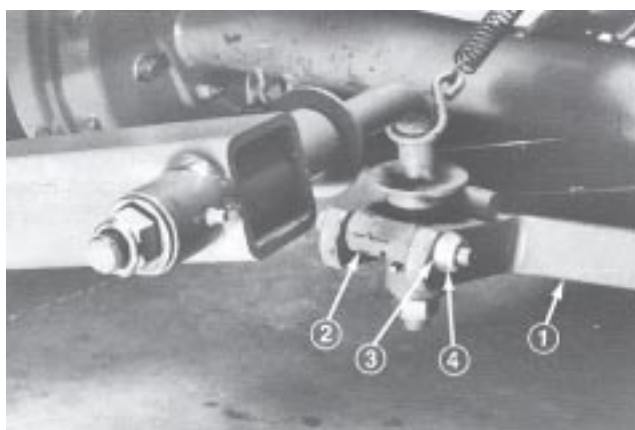

Figure 14
1. Align mounting holes in drawbar with mounting hole in lift bail housing. Offset hole in drawbar should be positioned up (Fig. 14).